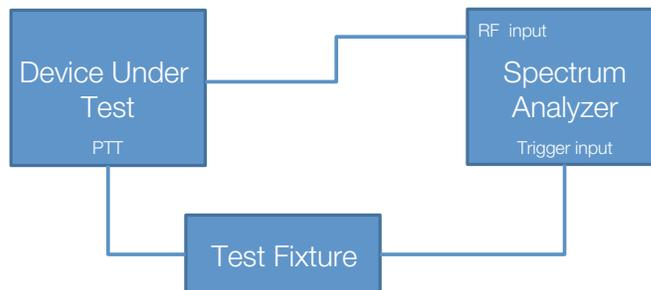

Figure 14. Test set-up for most triggered P25 measurements.
- **Connectivity:** The user will provide the trigger signal to the Spectrum Analyzer. The test needs to be set-up with a test fixture that creates the trigger signal as shown in Figure 14. This trigger signal is aligned with the Push to Talk control switch of the radio.
- **Connectivity:** The user will provide the trigger signal when the noise generator changes from no signal to band limited pink noise signal. The user connects the trigger to the Spectrum Analyzer trigger input. Tektronix RSA5000 needs to be operated in triggered mode as shown in Figure 14. The actual RF input to the Spectrum Analyzer comes after the noise signal from the source has passed through the DUT and calibrated receiver.
- **Connectivity:** The user will provide a trigger of when the signal is switched on or off. The user connects the trigger signal to the Spectrum Analyzer trigger input. Tektronix RSA5000 needs to be operated in triggered mode as shown in Figure 14.